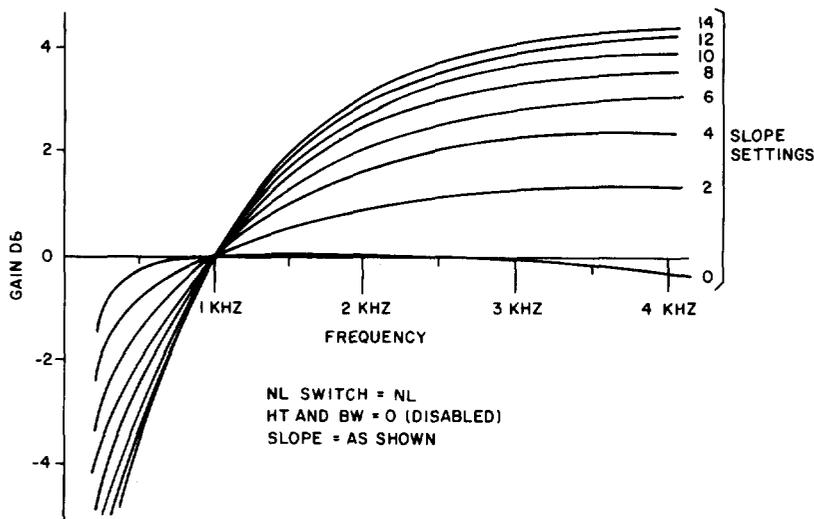
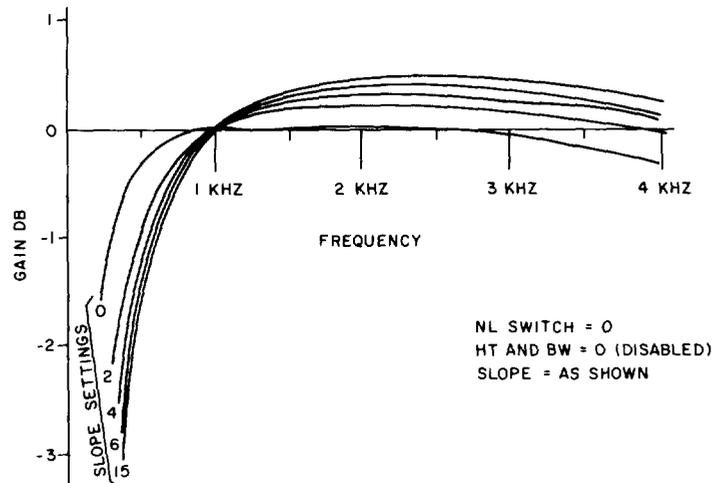
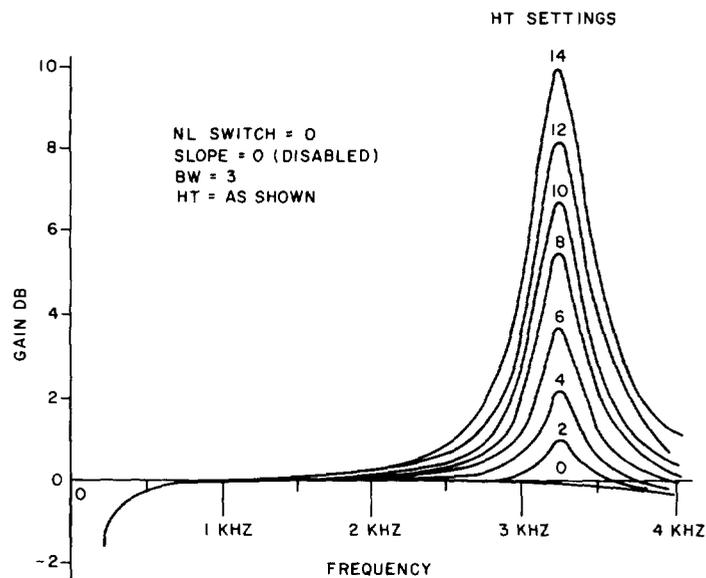
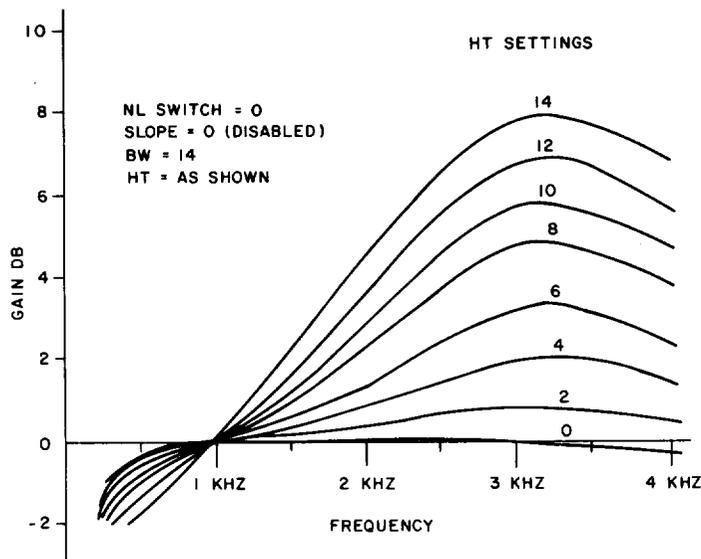

Fig. 8—Amplifier/Equalizer Frequency Response, NL Switch = NL, Slope = Variable
Fig. 9—Amplifier/Equalizer Frequency Response, NL Switch = 0, Slope = Variable
Fig. 10—Amplifier/Equalizer Frequency Response, BW = Small Setting, HT = Variable
Fig. 11—Amplifier/Equalizer Frequency Response, BW = Large Setting, HT = Variable
6.02 Figures 8 through 11 give the frequency response of the gain and equalizer units. Figure 8 gives the response curves for various SLOPE settings with the NL switch set to interface nonloaded cable (switch toward NL). Figure 9 provides response curves for the same SLOPE settings with the NL switch set to interface loaded cable (switch away from NL). Figure 10 gives the response curves for various HT settings with the BW switch at a small setting. Figure 11 gives the response curves for the same HT settings with the BW switch at a large setting.